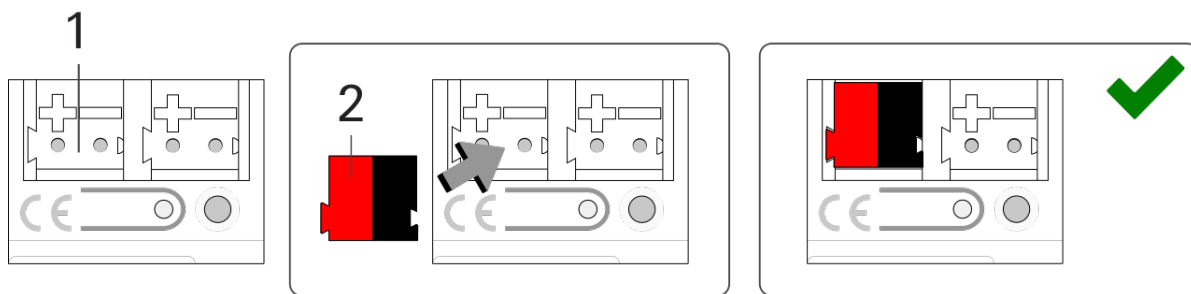

Figure 9: Connect the bus line
2. Connect the KNX/TP bus line (referred to below as the bus line) to the KNX connection of the device (figure 9, pos. 1) using the supplied bus connection terminal (figure 9, pos. 2). Polarity: left/red: "+", right/black "-".
- a. Attach the bus connection terminal (figure 9, pos. 2).